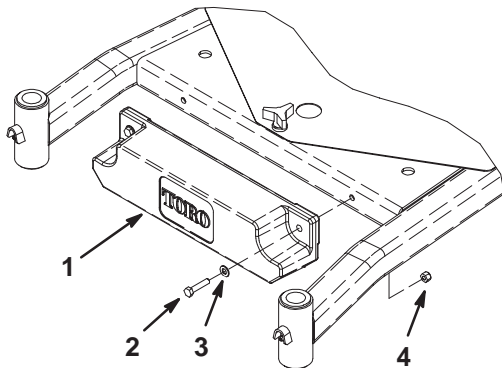

Figure 1
1. Secure the weight to **front** of the carrier frame with 2 capscrews, washers and nuts (Fig. 1).
1. Secure the weight to **front** of the carrier frame with 2 capscrews, washers and nuts when a Tru-Trak[®] Sulky is installed (Fig. 1).